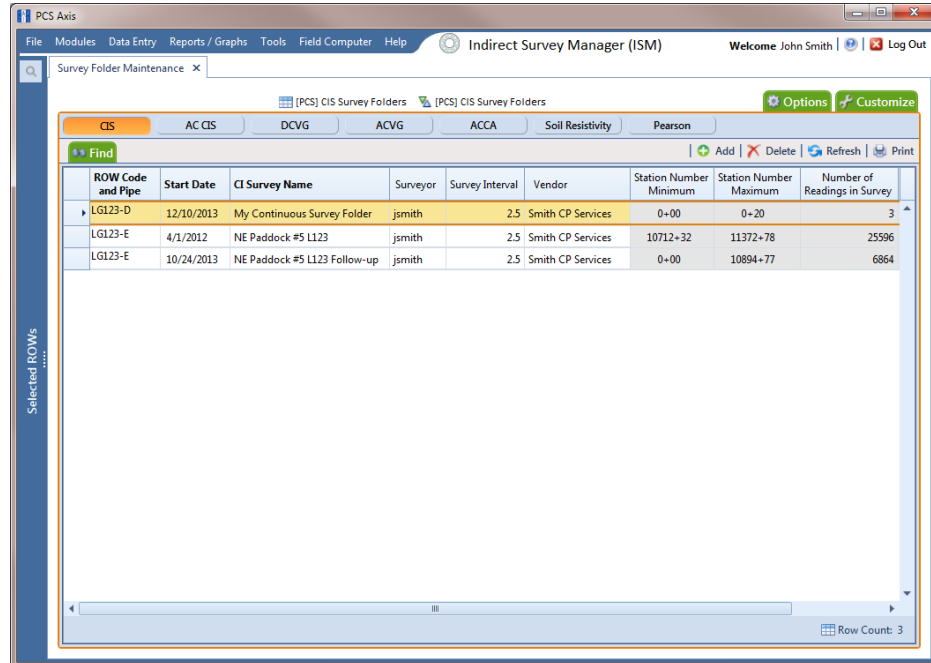

Figure 6-8. Survey Folder Maintenance
- 5 Select a pipeline segment in the grid that includes the continuous survey folder you want to delete. For example, the row of records for pipeline segment *LG123-D* are selected in the following figure (Figure 6-8, page 202).
- 4 Click a button labeled with the type of continuous survey that you want to add a layout theme. For example, click the **CIS** button  to add a layout theme for a continuous survey associated with close interval survey readings (Figure 6-8, page 202).
- 4 Click a button labeled with the type of continuous survey that you want to add a sorting theme. For example, click the **CIS** button  to add a sorting theme for a continuous survey associated with close interval survey readings (Figure 6-8, page 202).